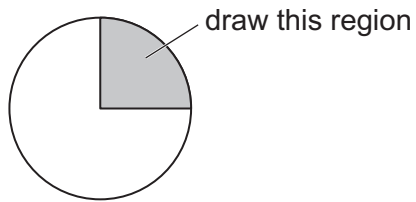

Fig. 2.1
- (a) (i) Draw a large plan diagram of the region of the stem on slide **J1** indicated by the shaded area in Fig. 2.1. Use a sharp pencil.